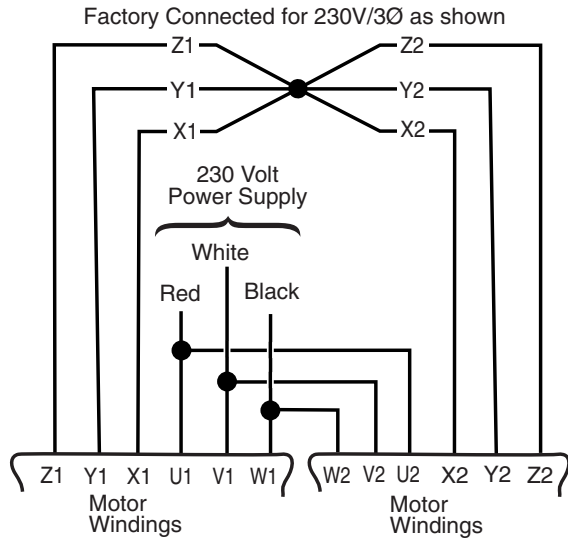

Figure 2: 230 Volt 3 Phase Wiring Connections
6. Connect the pump to its own circuit with nothing else on the circuit. See Table I, Page 4, for fuse or circuit breaker sizes. See Figures 2 and 3 for 230/460 Volt 3 phase connection diagrams. Use a control panel sized to match the pump. Refer to Control panel installation instructions for wiring connection information.